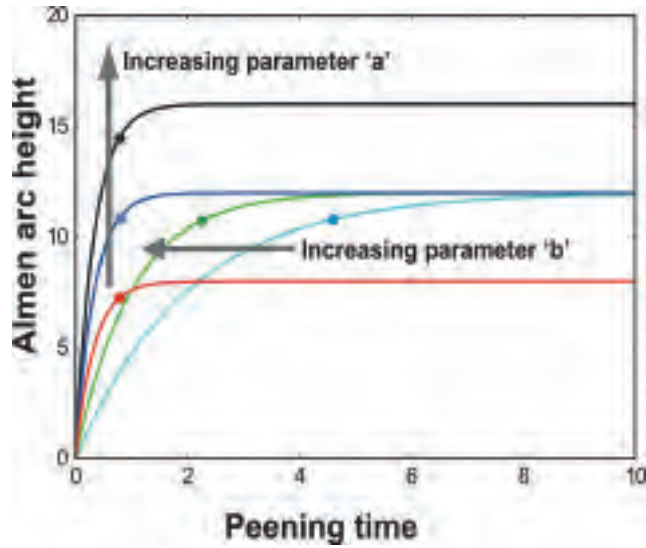

Fig.2 Effect of arc height and peening time on two-parameter exponential saturation curves.
For both equations the saturation intensity is a fixed proportion of parameter **a**, [9a/10 for equation (1) and 9a/11 for equation (2)]. Similarly the saturation time is a fixed proportion of parameter **b**, [2.303/b for equation (1) and 4.5*b for equation (2)]. Fig.2